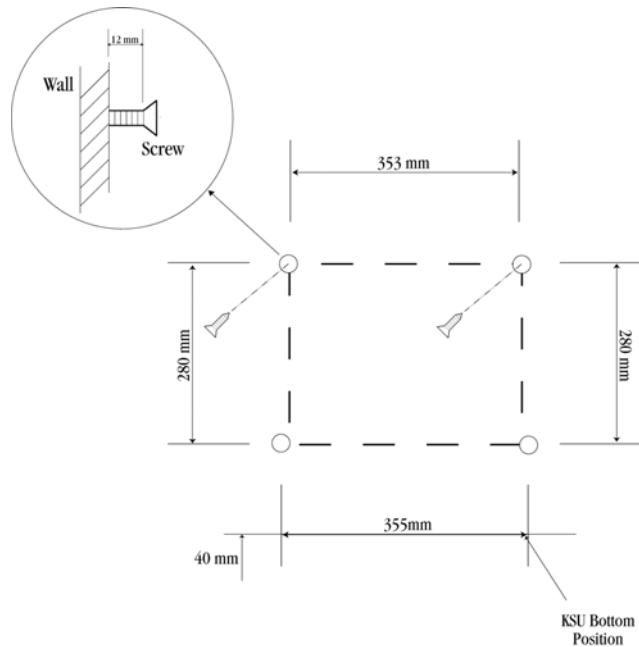

Figure 2-3: Attaching the Wall Mounting Bracket for the KSU to the Wall
1. Using two of the four screws (provided with the KSU) attach the wall mount template to the wall. (Refer to *Figure 2-3: Attaching the Wall Mounting Bracket for the KSU to the Wall*, Pg 47.)